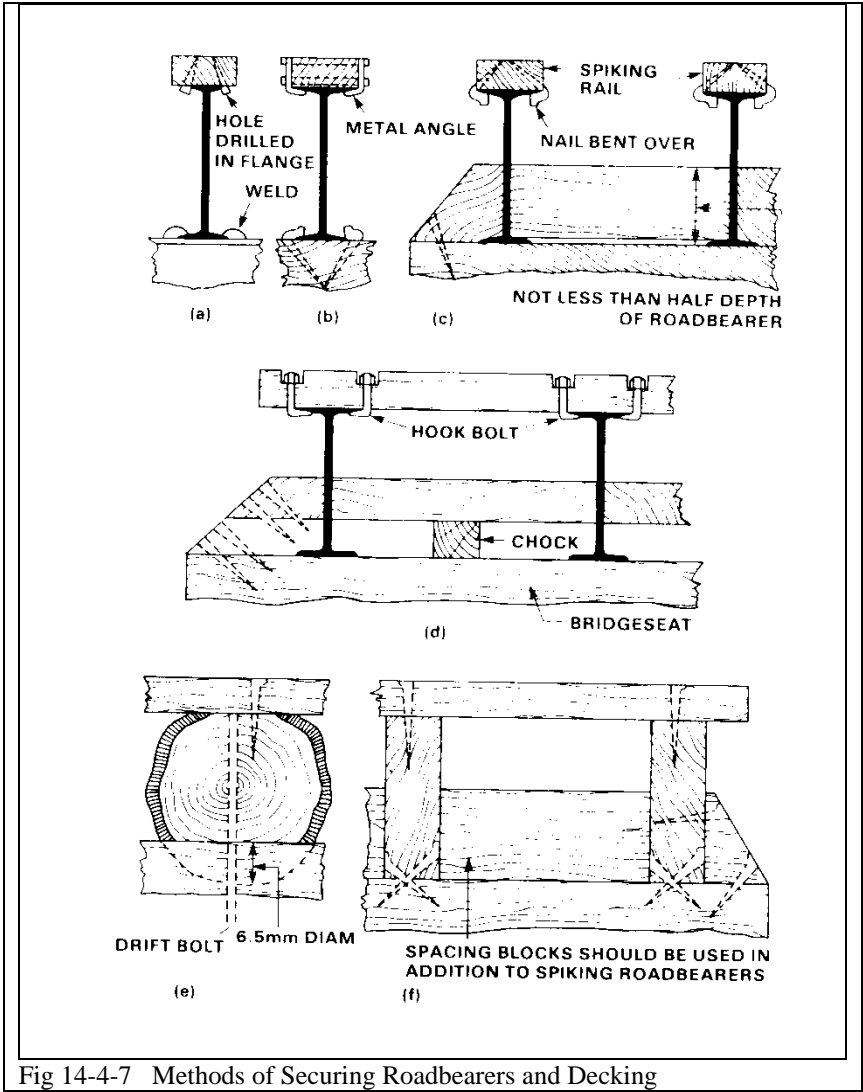

Fig 14-4-7 Methods of Securing Roadbearers and Decking
11. Roadbearers shall be secured against end movement, sideways movement, overturning, and in case of long RSJs, whipping or lateral movement (Fig 14-4-6 and Fig 14-4-7).
15. **Logs as Roadbearers.** When logs are used as roadbearers, the underside shall be sawn as shown in Fig 14-4-7(e) to provide a level bearing on the bridge seat or transom. To avoid undue reduction in the strength of the roadbearers, the cut shall not be more than a quarter of the diameter. The log is then fixed with a drift pin.
17. Each piece of decking shall be nailed or spiked to roadbearers or spiking rails at intervals of not more than 1.2 m. When the roadbearers are RSJs, the spiking rails can either be fixed on top of RSJs as shown in Fig 14-4-7 or between them as shown in Fig 14-4-6. The width of spiking rails shall be approximately the same thickness as the thickness of the decking and when placed between roadbearers, it will be one-and-a-half to twice as deep as it is wide.